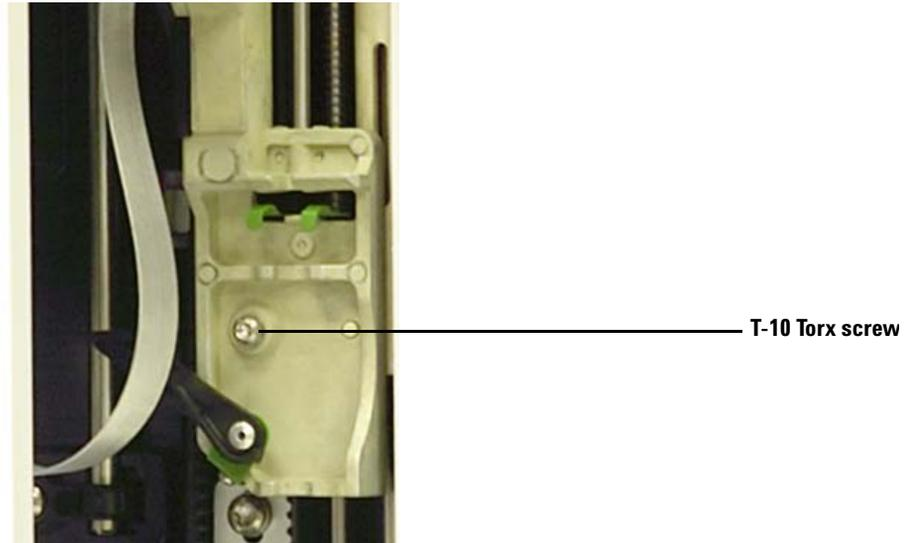

Figure 62 Removing the T-10 Torx screw
- 6 Completely loosen and remove the T-10 Torx screw above the syringe latch (Figure 62).